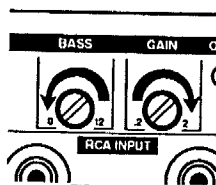

Figure 5
1. Start both adjustments at "0" or at minimum, a counter-clockwise setting for Bass EQ, and Clockwise for Gain (see Figure 5).